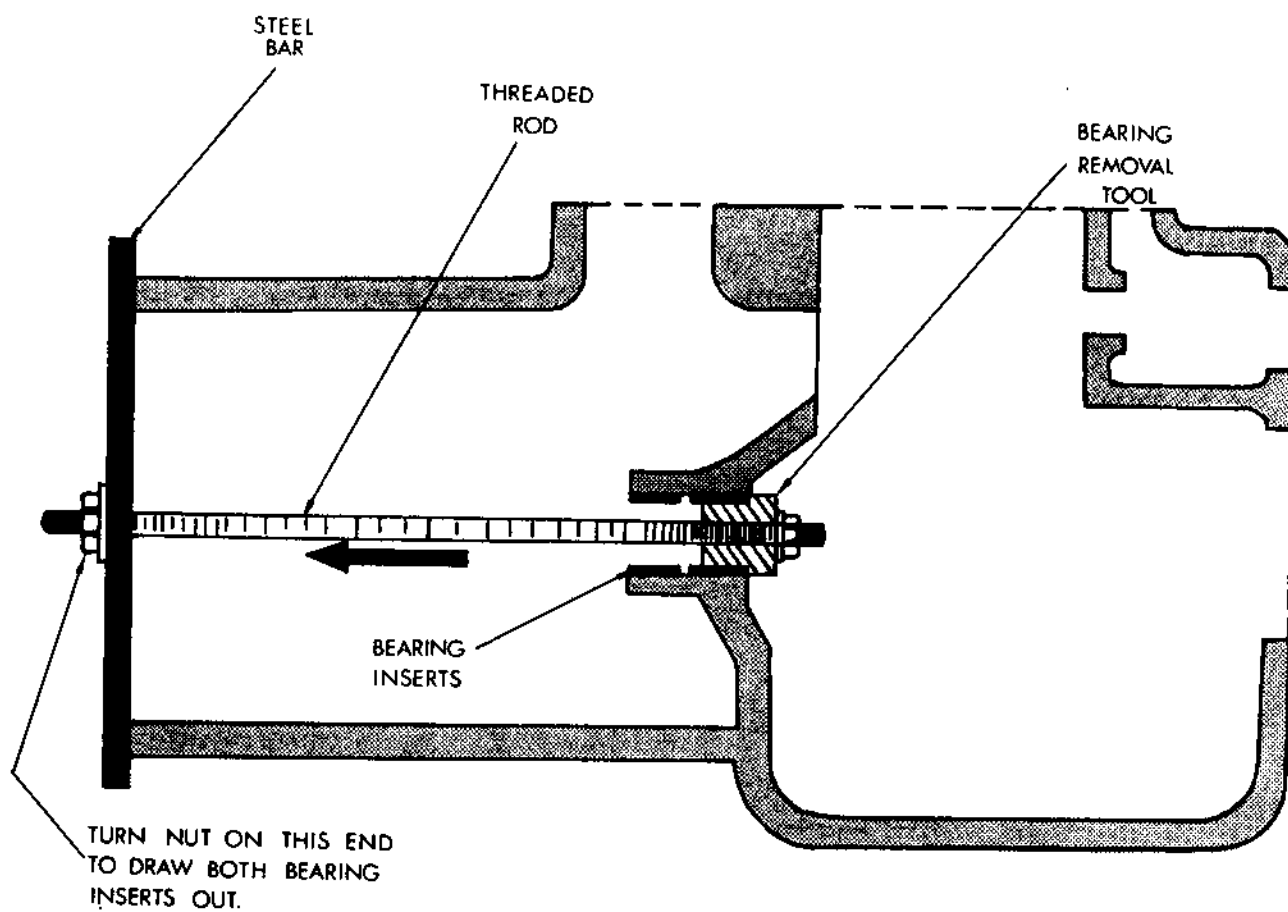

Figure 64 — Bearing Insert Tool
2. Insert tool into bearing and draw both bearing inserts out by turning nut on the steel bar end of threaded rod as in Figure 64.